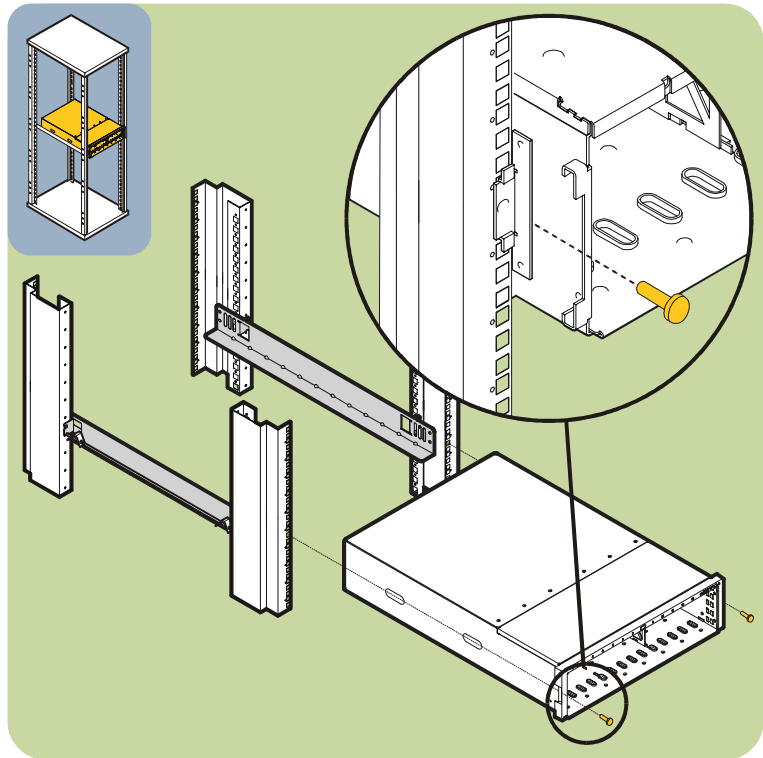

Fig. 37. Securing the array in Compaq 9000
12. Place the array on the rails and slide it all the way to the rear. (see Fig. 37).